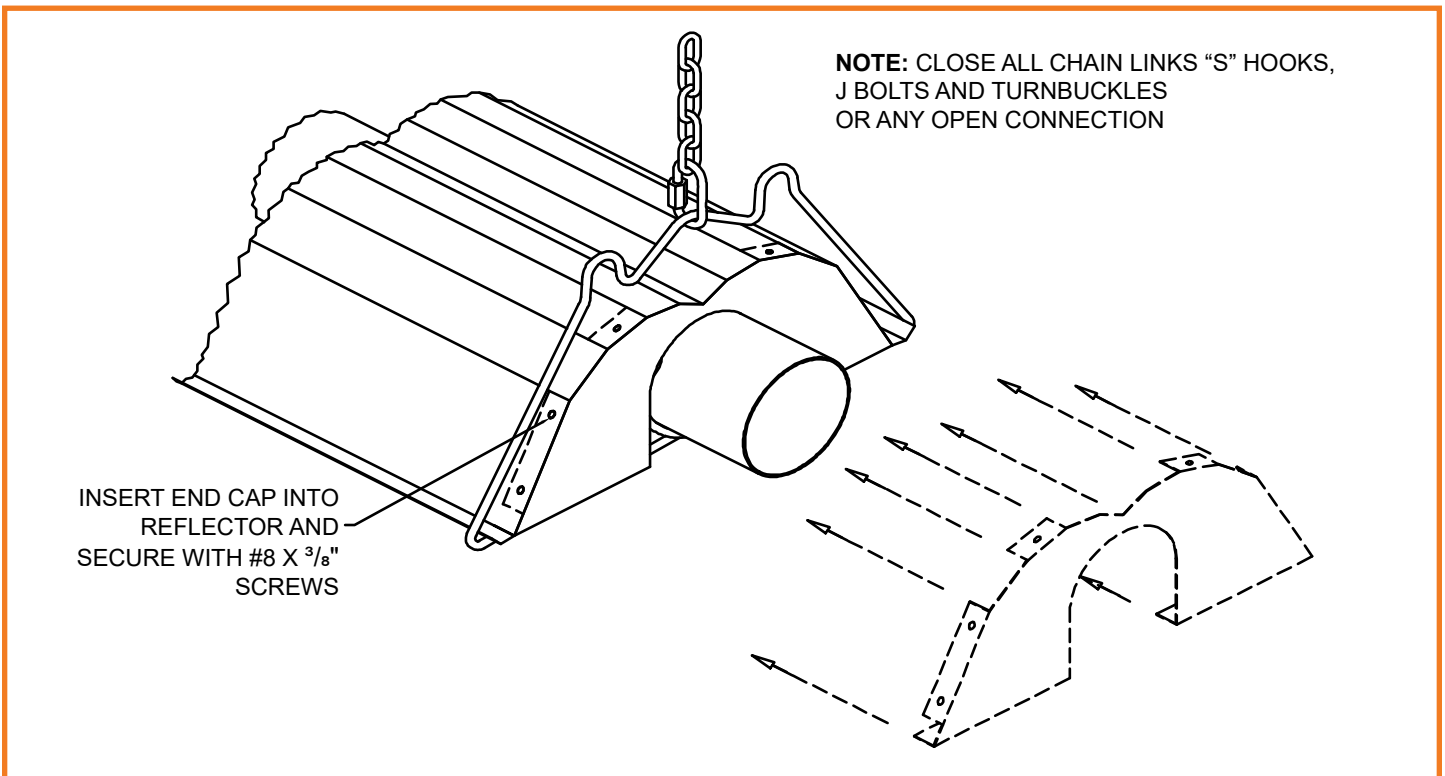
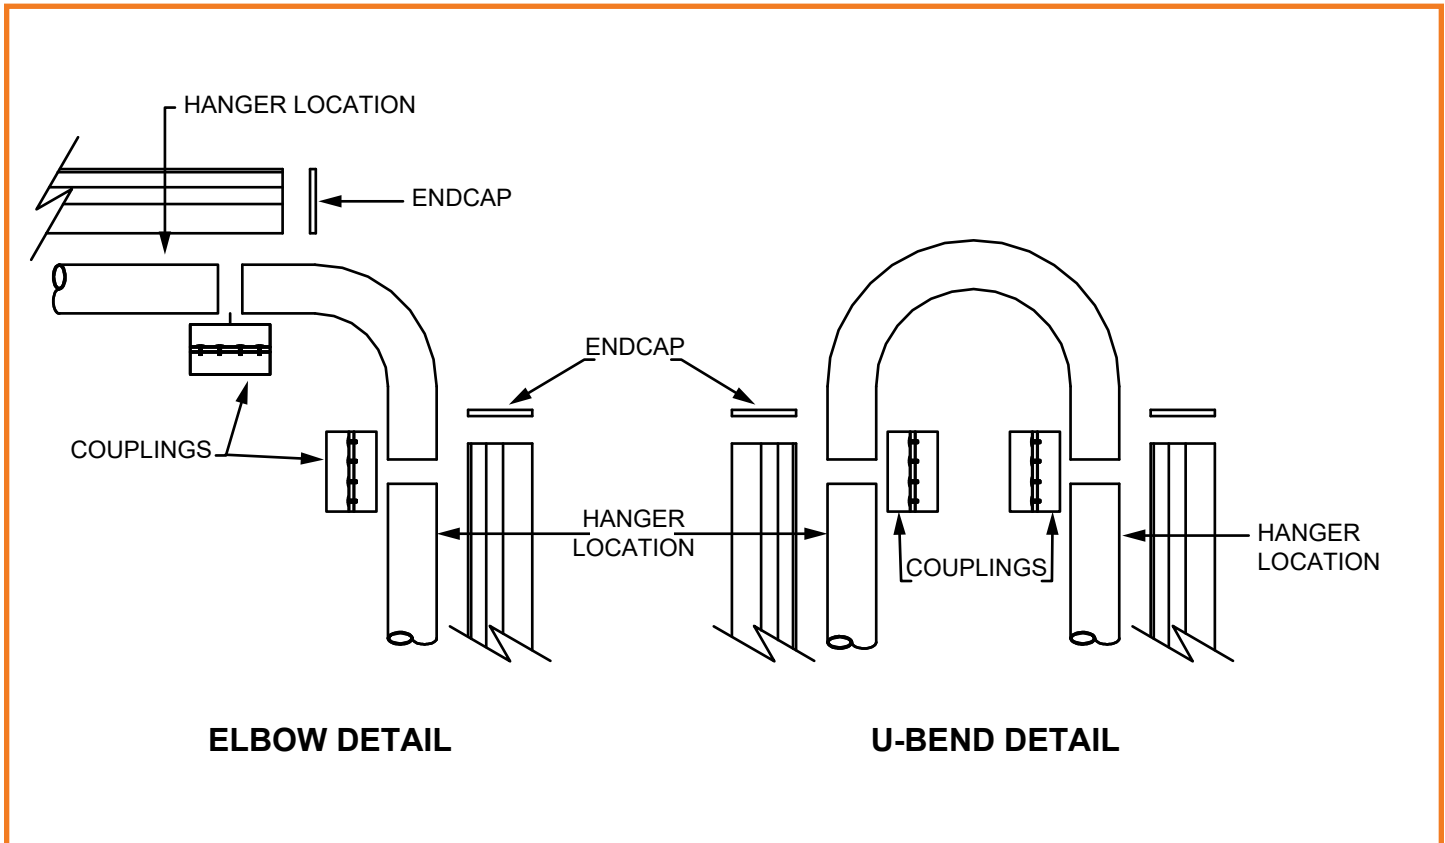

Figure 18: Reflector End Cap Installation
Figure 19: 90° Elbow and U-Bend Assembly Detail
- Install End Cap as shown in Figure 18 and Figure 19
- If required by the heater layout, install 90° elbows or U-bend tubes where indicated. Refer to Figure 19 for details.